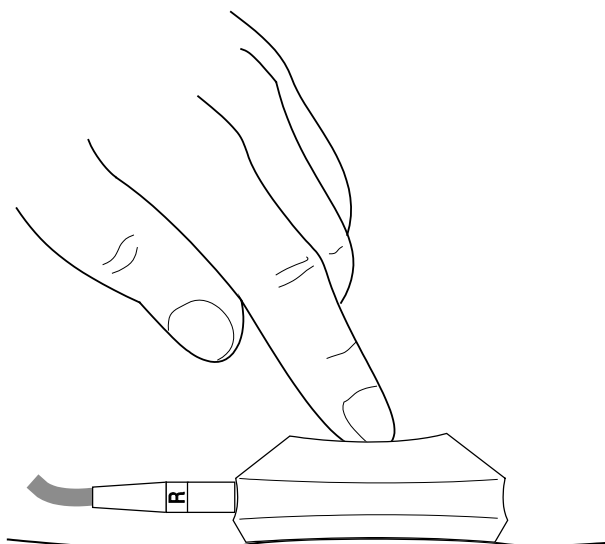

Figure 4-2. Applying an electrode
- \* Place the electrode on that site, press gently on the electrode's suction cup and release the cup (Figure 4-2).